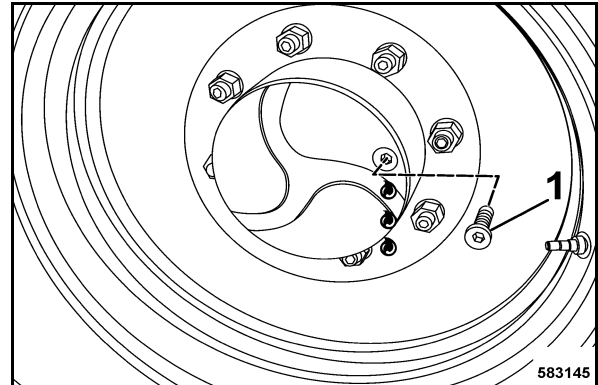

Fig. 176
- Move the drive wheel, until the plug (Fig. 176) is in horizontal position on the housing.